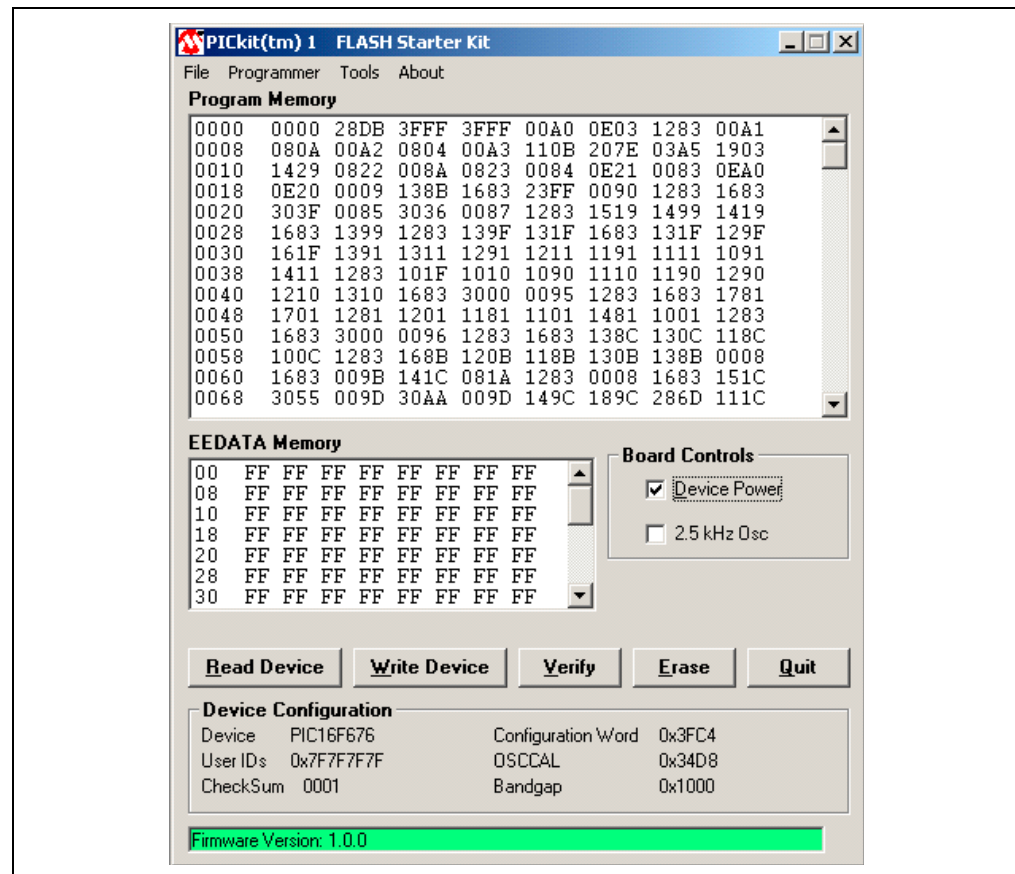

FIGURE 2-4: PICkit™ 1 Flash Starter Kit GUI Window on the PC.
3. When the PICkit 1 Flash Starter Kit is started, the main window will be displayed on the PC as indicated in Figure 2-4.
4. Toggle device power to off by unchecking the **Device Power** box under **Board Controls** in the PICkit 1 Flash Starter Kit window (Figure 2-4). The **BUSY** LED on the PICkit 1 Flash Starter Kit board will turn off when the device power is turned off.